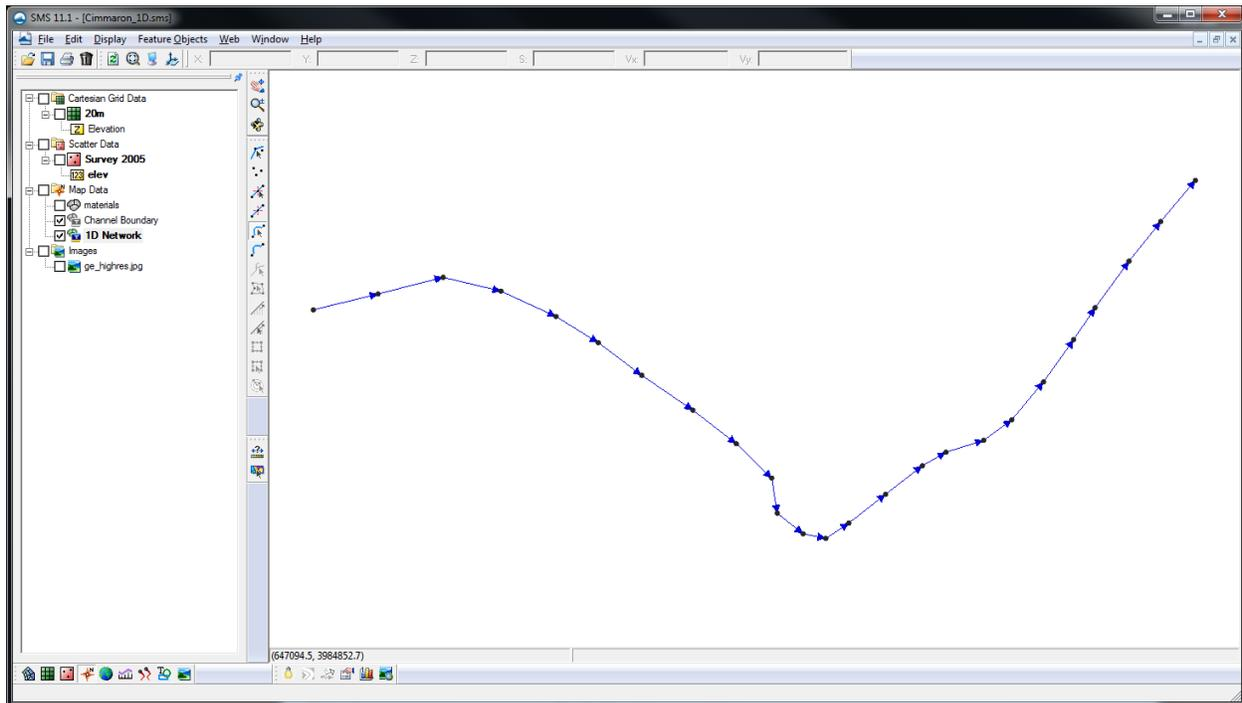

Figure 6 Creating the 1D Network centerline
4. Using the *Create Feature Arc*  tool, create a series of arcs (one for each node pair). This means that the arc will start and stop at each node. By default, each arc represents a segment of open channel. The length of an arc should come from the channel it is representing. Each arc should represent a fairly consistent cross section shape. Feel free to add intermediate vertices to make the centerline smoother. You may want to zoom in and pan along the channel as you define the arcs. The finished digitized arcs should look something like Figure 6.